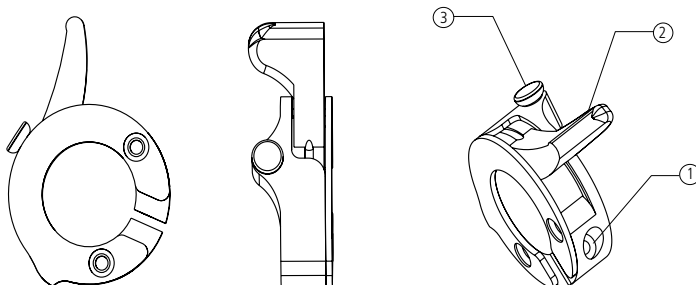

Figure 2
- **Position the lever in a way that to activate it you must push the finger forwards, but not down. The lever must be positioned upwards, as shown on Figure 2.**